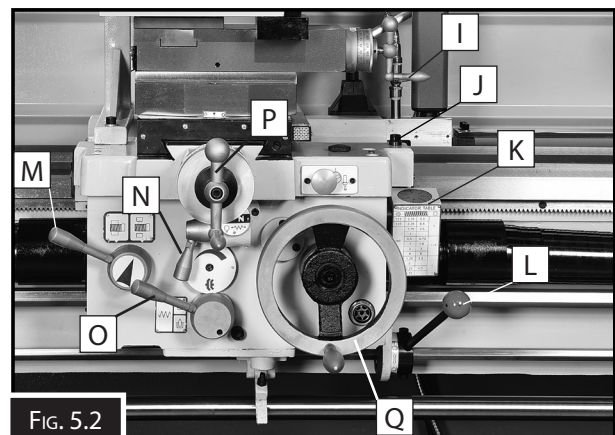

FIG. 5.2
- e. Move the spindle lever (Fig. 5.2) down to start the spindle. The top of the chuck should turn down and toward the front of the lathe.
#### APRON (Fig. 5.2)